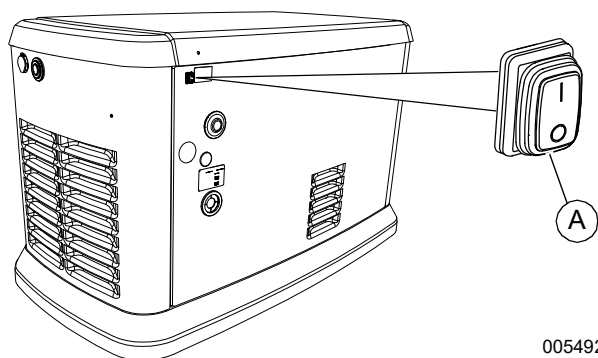

Figure 3-6. External Auxiliary Shutdown Switch (all models)
See Figure 3-6. An auxiliary shutdown switch (A) is located on the exterior of the generator back panel. This auxiliary shutdown switch shuts down generator and disables restarts.